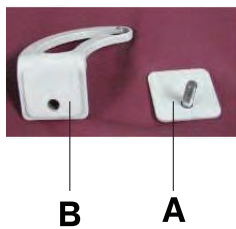
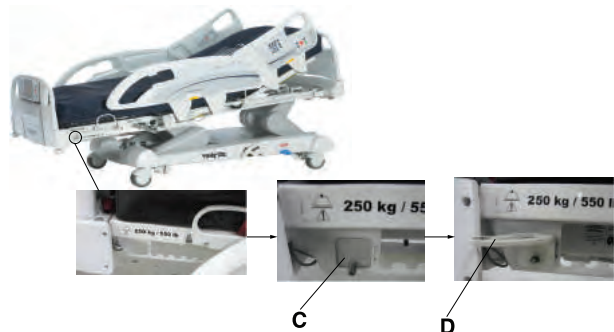

Figure 125: Bracket and bracket back
Figure 126: Installing the bracket back and bracket
1. Install the bracket back (A) and the bracket (B) (Figure 125 on page 109) onto the end of the foot end foley bag hook at the foot end of the product (C and D) (Figure 126 on page 109).